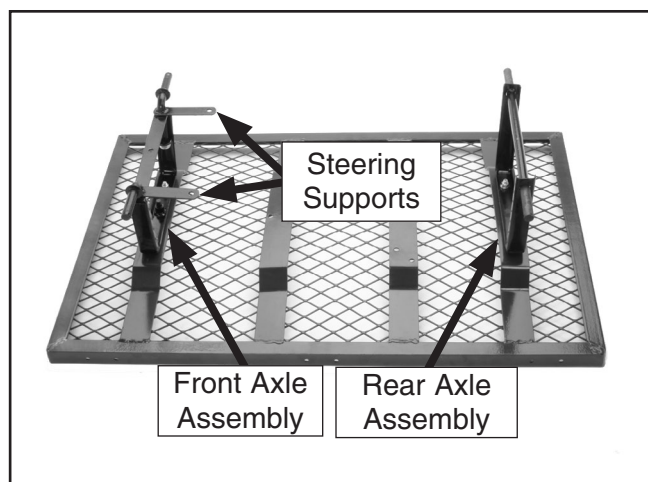

Figure 2. Axles mounted to the bed.
1. With the bed turned upside down, fasten the front and rear axles (**Figure 2**) to the bed with four M8-1.25 x 20 hex bolts, flat washers, and lock nuts. The hex nuts should face up and the front axle steering supports should point toward the rear of the cart.